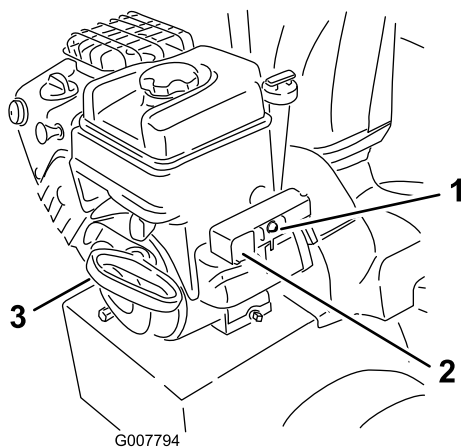

Figure 29
7. Start the snowthrower pulling the recoil starter or pressing the electric starter button (Figure 29).